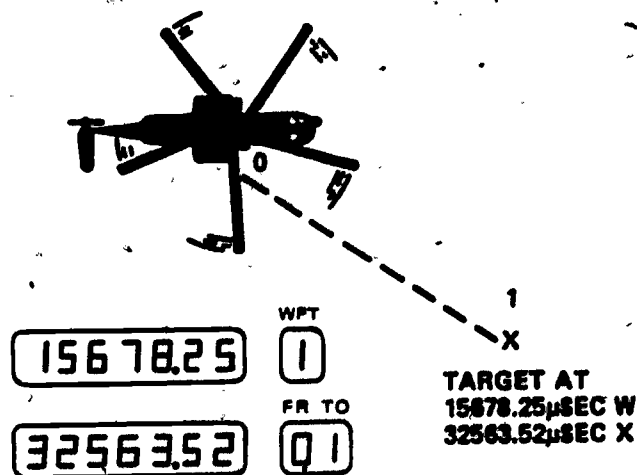

Figure 9-10. - Waypoint Entry in Time Differences.
If a report of a target at a certain TD fix is received without regard to lat/long, enter those TDs as a waypoint, then enter a leg change of 01. Navigation from present position (0) to that fix (1) is provided. See figure 9-10.